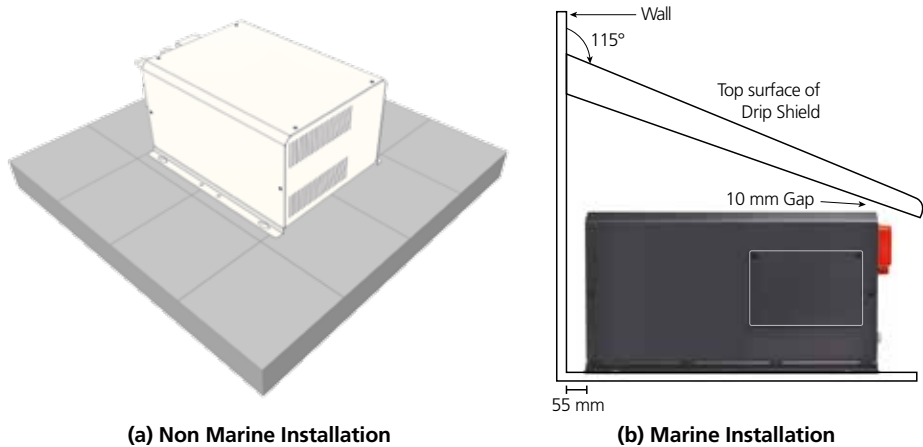

Fig 3.2 Mounting Arrangement: Horizontally On Horizontal Surface
- Mount horizontally on a horizontal surface (e.g. table top or a shelf). Please see Fig. 3.2.